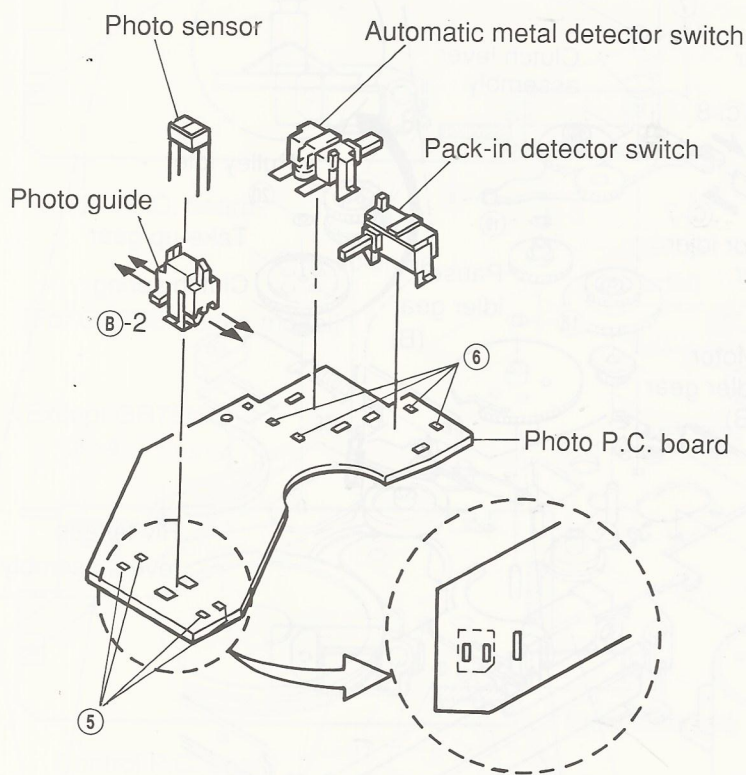

Figure 7
- (1) Remove four solders ⑤ as shown in Figure 7.
- (2) Remove the photo guide together with the photo sensor from the photo P.C. board as shown in Figure 7.
- (3) Insert the new photo sensor into the photo guide, and bend the legs of the photo sensor in the direction marked ⑧-2 as shown in Figure 7.
- (4) Insert the photo guide into the P.C. board and solder the legs so that the photo sensor is set as indicated by [ ] in Figure 7.
- (1) Remove 4 solders ⑥ with which the switch is fixed as shown in Figure 7.